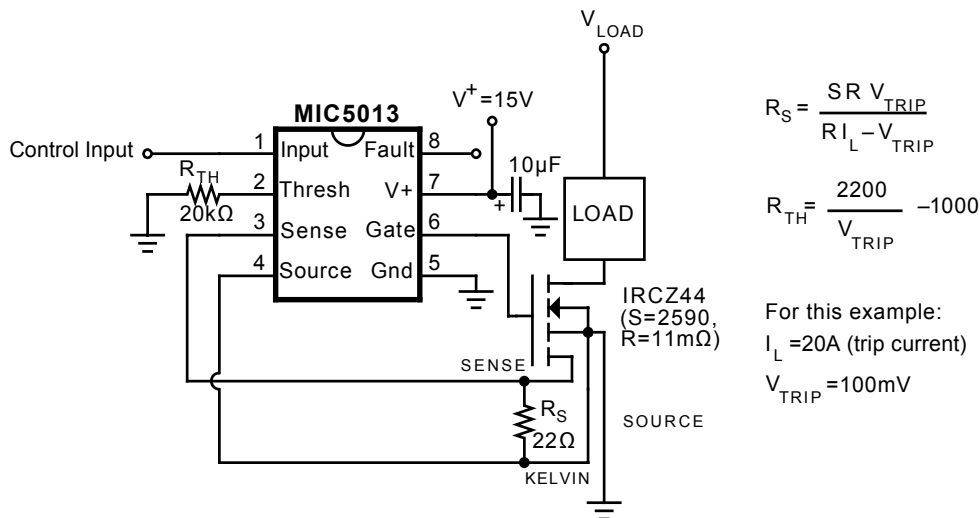

Figure 4. Low-Side Driver with Current-Sensing MOSFET
**Low-Side Driver with Current Sensing MOSFET** (Figure 4). Several manufacturers now supply power MOSFETs in which a small sampling of the total load current is diverted to a "sense" pin. One additional pin, called "Kelvin source," is included to eliminate the effects of resistance in the source bond wires. Current-sensing MOSFETs are specified with a sensing ratio "S" which describes the relationship between the on-resistance of the sense connection and the body resistance "R" of the main source pin. Current sensing MOSFETs eliminate the current shunt required by standard MOSFETs.
The design equations for a low-side driver using a current sensing MOSFET are shown in Figure 4. "S" is specified on the MOSFET's datasheet, and "R" must be measured or estimated.  $V_{TRIP}$  must be less than  $R \times I_L$ , or else  $R_S$  will become negative. Substituting a MOSFET with higher on-resistance, or reducing  $V_{TRIP}$  fixes this problem.  $V_{TRIP} = 100$  to 200mV is suggested. Although the load supply is limited only by MOSFET ratings, the MIC5013 supply should be limited to 15V to prevent damage to the gate clamp zener. Output clamping is necessary for inductive loads.